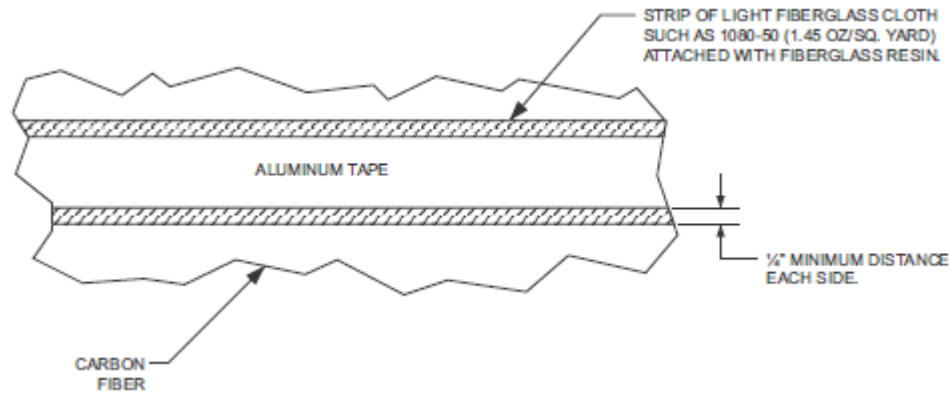

Figure 4-58 Fiberglass Insulation for Carbon Fiber Material
3. If the tape will come in contact with carbon composite material, the tape must be electrically isolated from the carbon composite material to prevent corrosion due to dissimilar materials. Secure a thin layer of fiberglass cloth to the carbon fiber with fiberglass resin as shown in Figure 4-58.